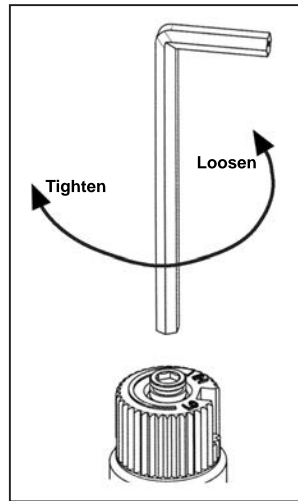

Figure 11: Removing valve screw.
- d) Insert a 5/32" or 4 mm Allen wrench into the hexagonal key-way of the screw (see Figure 11), rotate it counter-clockwise until it is free and extract it.